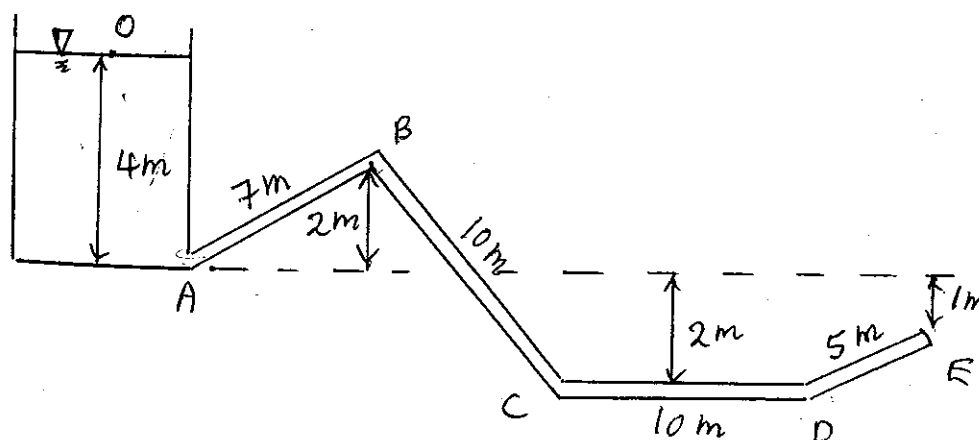

Figure 1
1) Water flows from a large tank, X, to the atmosphere, through a pipeline ABCDE, as shown in Figure 1. The elevations of the nodes and lengths of the pipes are shown in the figure. All the pipes have a diameter of 25 mm. Neglect all energy losses.